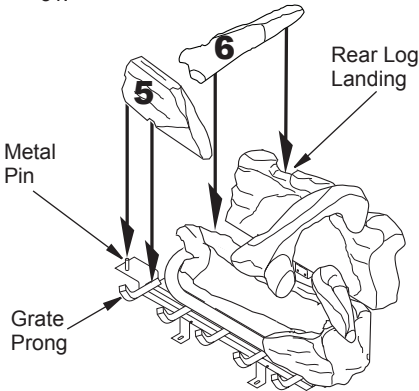

Figure 31 - Installing Logs No. 5 and No. 6
5. Place log #5 (base log) onto front left part of grate making sure notch and hole fit over metal pin and prong of grate. See Figure 31.
6. Place log #6 (left log) onto rear log landing and resting it on top of front log. See Figure 31.